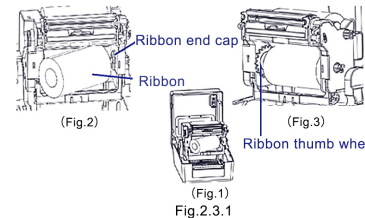

Fig. 2.3.1
- A) For the ribbon shaft with an inner diameter 12.7mm (1/2 inch), the operation method is as shown in Fig.2.3.1 (please pay attention to the installation